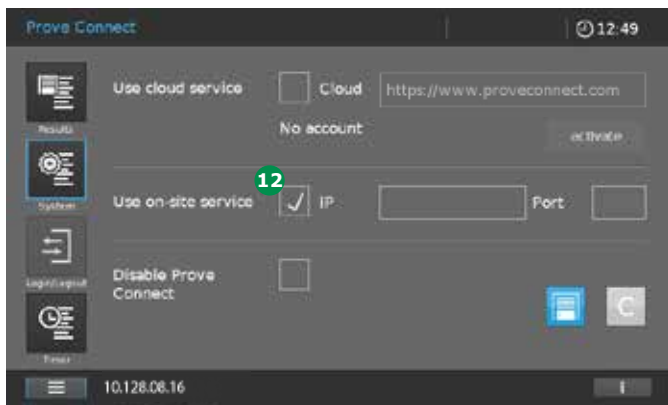

Figure 28 - Screen of "Prove Connect" menu
6. Set the checkmark for Use on-site service 12 (Figure 28).